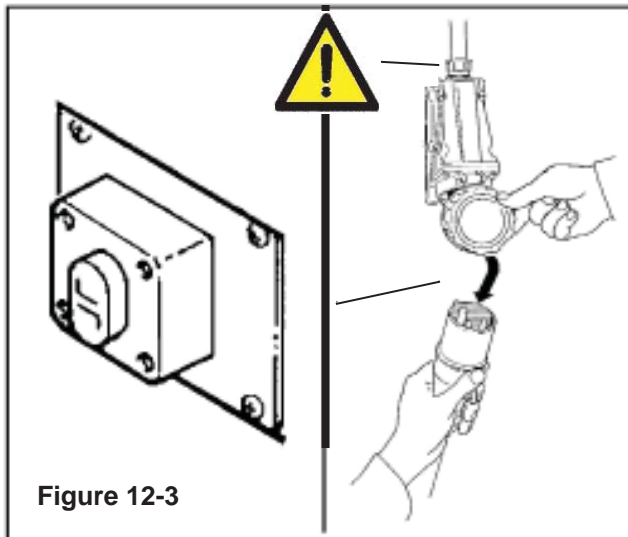

Figure 12-3
Push the main switch ON (I) after the EMERGENCY BUTTON is released (**Figure 12-3**).
Before carrying out any cleaning or maintenance operation, stop the machine by turning the OFF (O) switch on the main and disconnect the electric power (**Figure 12-3**).